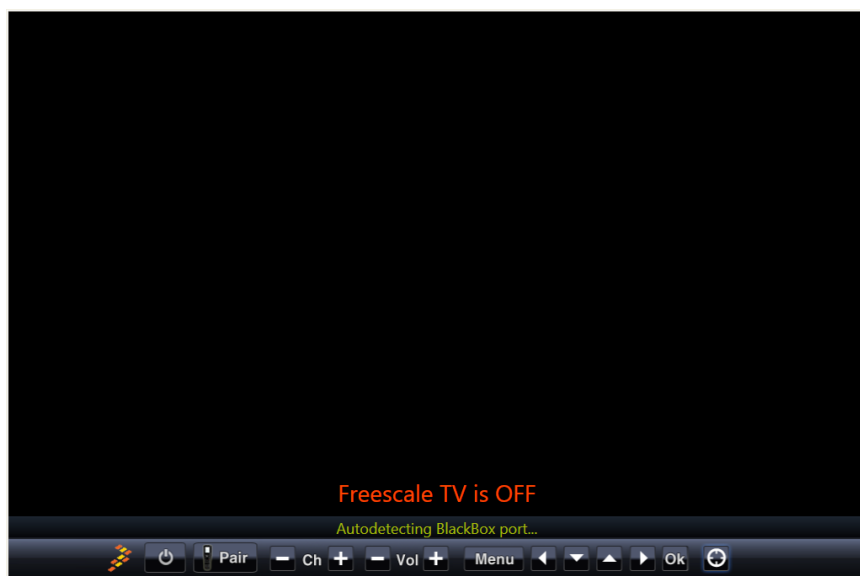

Figure 4. HECA TV Initial GUI View
5. From the HECA toolbar view click the TV option. Wait until the TV Device view appears as shown in Figure 4.